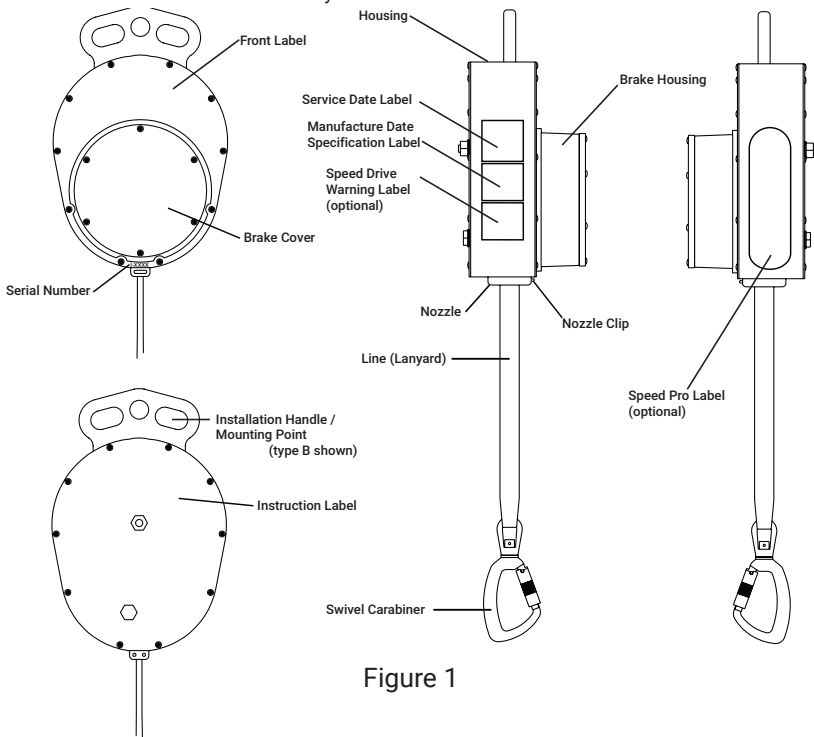

Figure 1
- Auto belay serial number (See to Figure 1 for location).
## 4.2 PERFECT DESCENT AUTO BELAY HOUSING ELEMENTS (See Figure 1)
## 4.3 PERFECT DESCENT AUTO BELAY LABELS AND MARKINGS (See Figure 1,4 and 5)
- Confirm that all labels are affixed to the Perfect Descent Auto Belay and are legible (See Figure 1, 4 and 5)
- Check the Date of Manufacture and Service Date Labels for the "Next Recertification Due" date (see figures 1 and 5). Make a note of the next recertification due date on your calendar. If the date shown has passed or the label is missing or illegible, contact your Perfect Descent reseller.
Mounting height (maximum extension) is measured from the center hole in the installation handle to the connection point (see figure 1). Perfect Descent Auto Belays are available in three different Lanyard lengths.